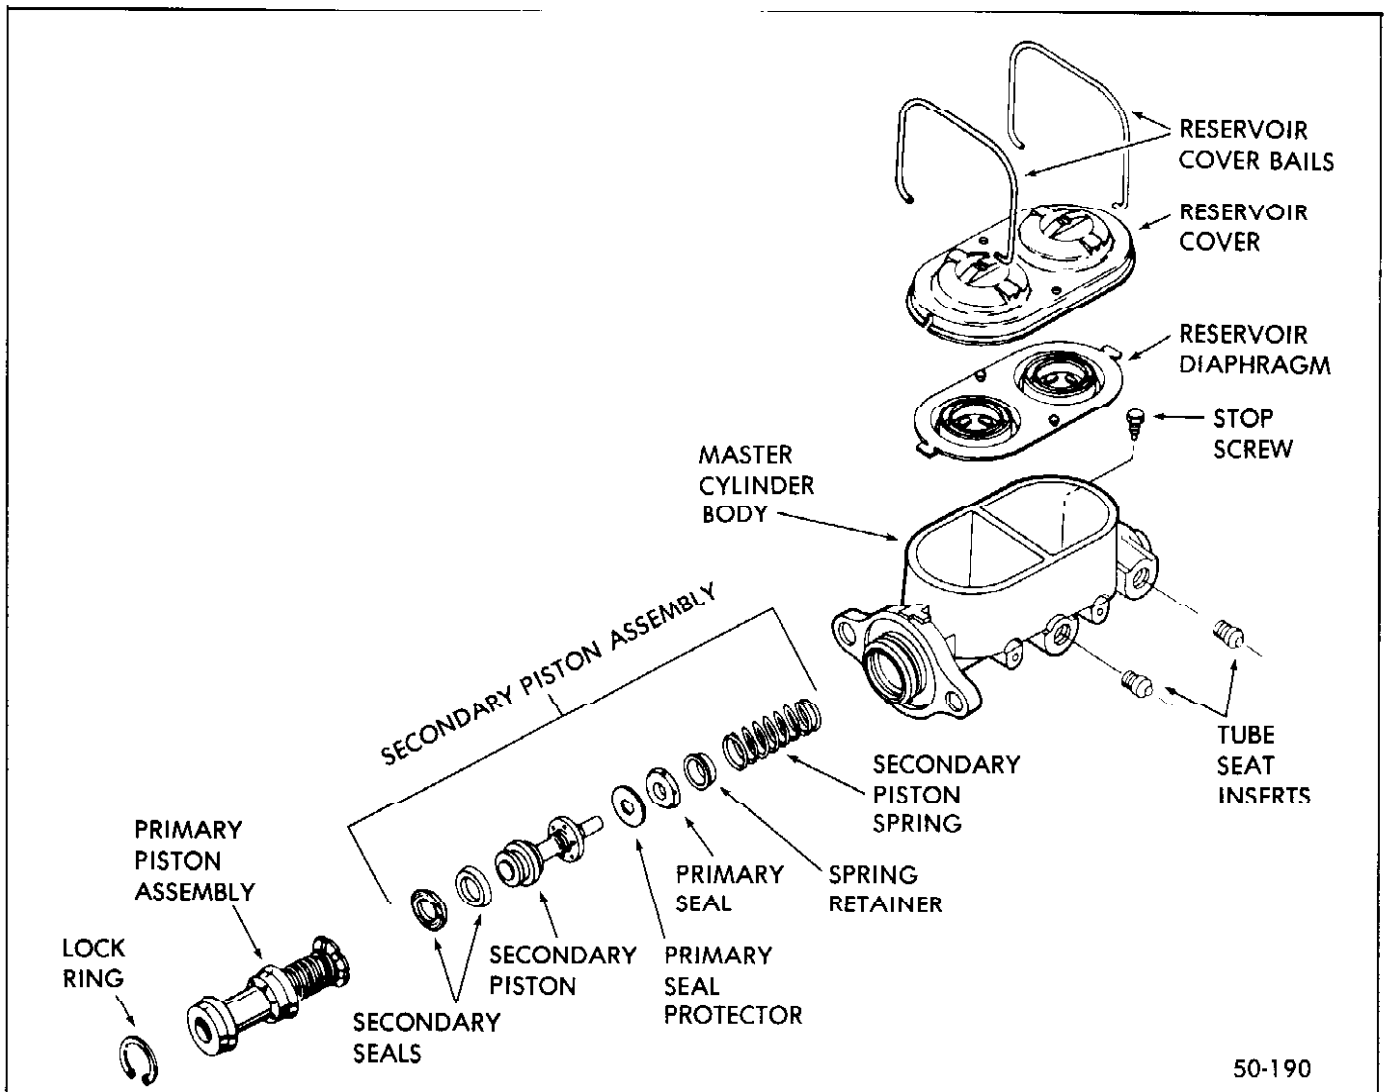

Figure 50-83 Exploded View of Typical Dual Master Cylinder
1. Remove the small secondary piston stop screw from the bottom of the front fluid reservoir of the master cylinder. See Figure 50-83.